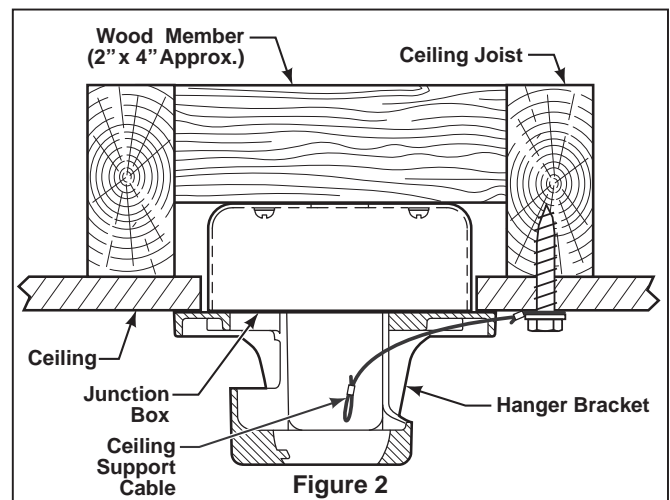

Figure 2
1. Using the 3/8" x 2" lag bolt and flat washer, attach safety cable to ceiling joist or wood structural member. The lag bolt will pass through the flat washer, safety cable loop, and into the building structure (Figure 2). You will first drill a 1/4" pilot hole into the building structure to prevent splitting or cracking.
**NOTE: Ceiling support cable cannot be secured to junction box only, it must be directly secured to ceiling joist or structural member using the 3/8" x 2" lag bolt and flat washer. (Figure 2)**